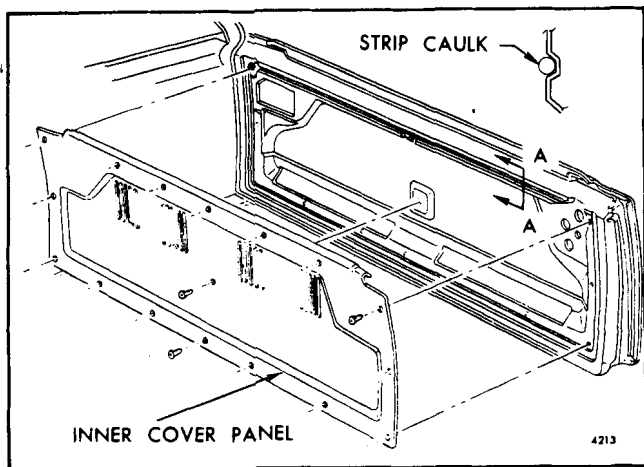

Fig. 9-6-Tail Gate Inner Cover Panel Retention
1. Remove screws securing inner panel to tail gate (Fig. 9-6).
1. Inspect sealer deposit in the depression of the tail gate. If required, apply a bead of body caulking compound in sufficient quantity to effect an adequate seal (Fig. 9-6).